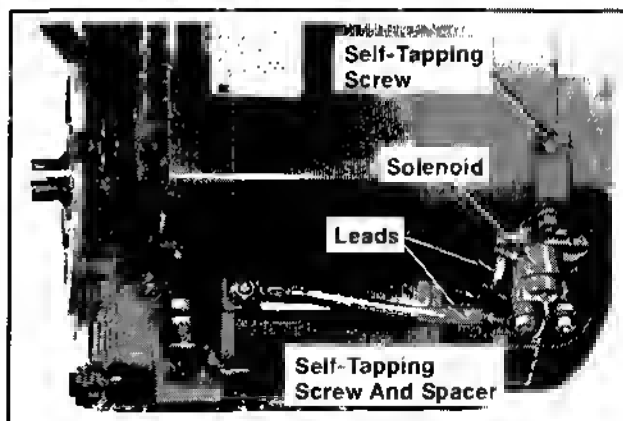

Figure 11-43. Installing Starter Solenoid.
1. Install the spacer, solenoid with bracket, and self-tapping screws. Connect the leads to starter solenoid. Secure wiring harness to solenoid with a new wire tie. Refer to Figure 11-43.